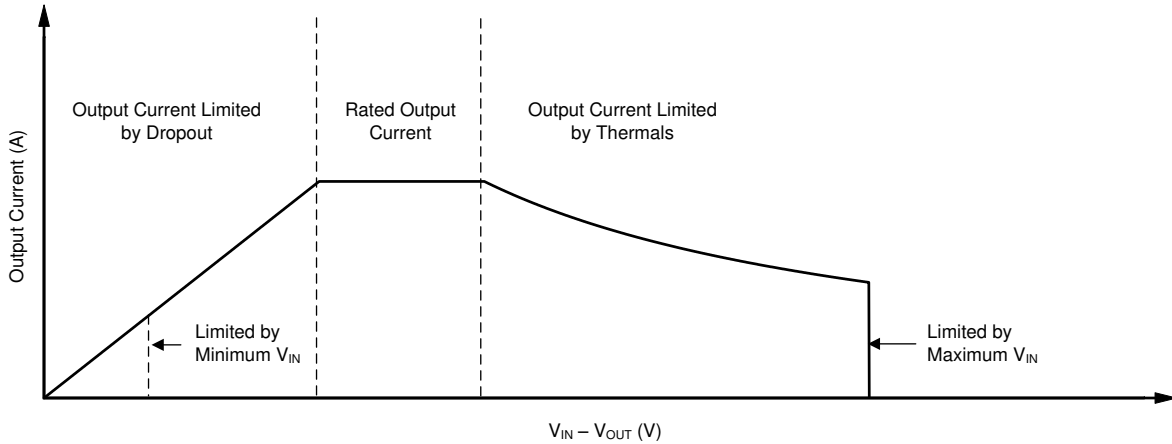

图 8-3. Continuous Operation Diagram With Description of Regions
The operational area of an LDO is limited by the dropout voltage, output current, junction temperature, and input voltage. The recommended area for continuous operation for a linear regulator is shown in 图 8-3 and can be separated into the following regions:
- 图 8-3 provides the shape of the slope. The slope is nonlinear because the maximum rated junction temperature of the LDO is controlled by the power dissipation across the LDO; thus, when $V_{IN} - V_{OUT}$ increases the output current must decrease.